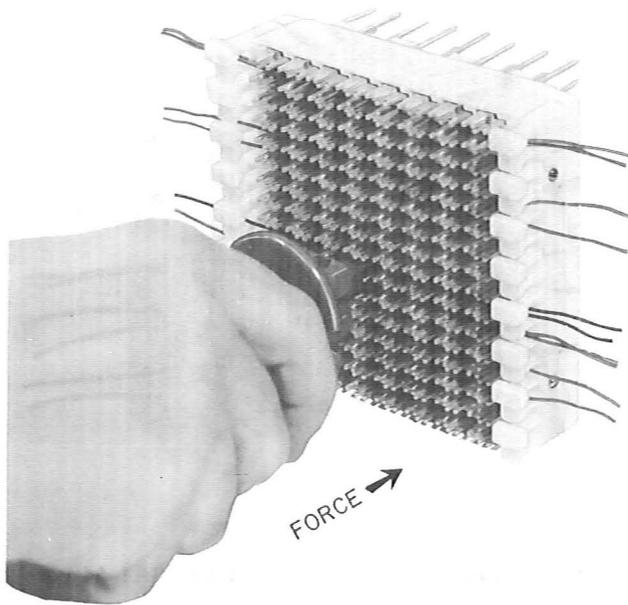

Fig. 9—Use of 756B2 Tool With 78B1-64 Block
- (h) To make the termination, allow the terminal to guide the tool during the actual insertion of the wire (Fig. 9). The tool has an internal stop to keep it from inserting the wire too deeply. After the wire has been seated, the tool should be withdrawn, straight out. In case unusual resistance or "feel" is encountered,